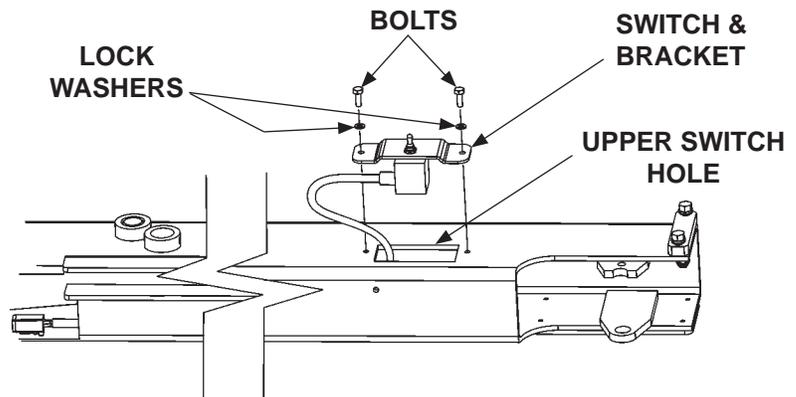

FIG. 29-1
17. If RH runner is being replaced, unbolt switch mounting bracket from runner by removing (2) bolts and (2) lock washers (**FIG. 29-1**). Pull runner switch, bracket, and cable from runner.
18. If RH runner is being replaced, reinstall runner switch, bracket, and cable in runner as follows. Make a wire fish by feeding 8 feet of small guage wire through upper switch hole in runner (**FIG. 29-1**). Pull wire through channel at lower end of column. Leave enough wire at upper hole to attach to switch cable, and leave enough wire to pull at the lower end of runner. Tie upper end of wire fish to runner switch cable connector. Pull connector with cable through runner until connector exits lower end of column. Bolt switch mounting bracket to runner with (2) bolts and (2) lock washers (**FIG. 29-1**).